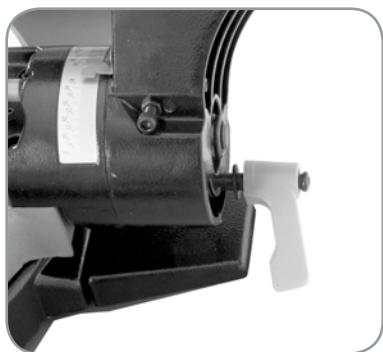

Fig. 32
- Loosen the bevel lock lever. **(Fig. 32)**